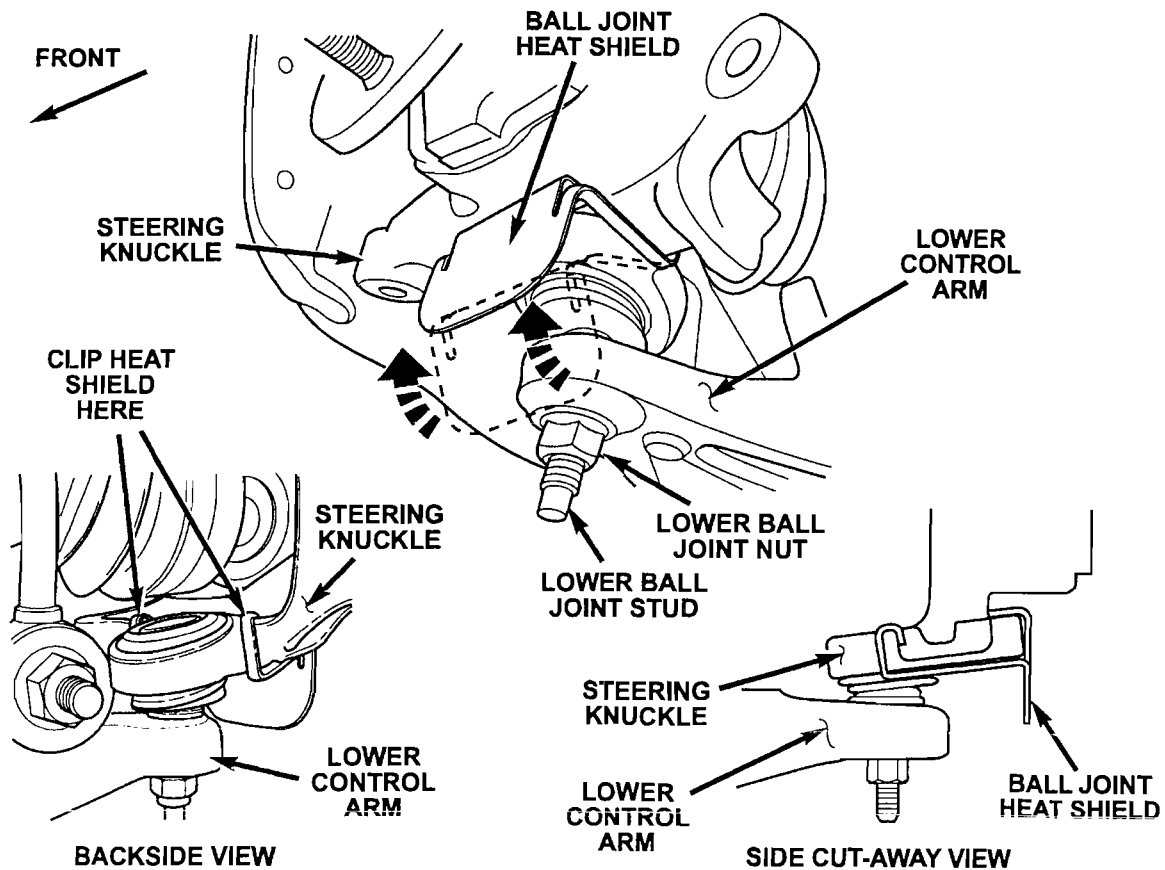

Figure 9
- 31. **On 2002 and 2003 model year vehicles**, inspect the steering knuckle for the presence of a ball joint heat shield. Vehicles without heat shields must have them installed (Figure 9).